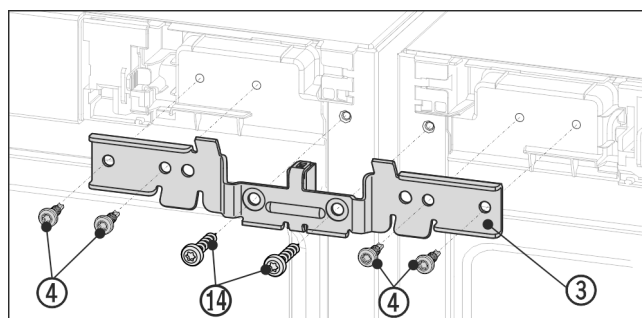

Fig. 12 Example illustration
- Slide the bracket *Fig. 12 (3)* with the spacer between the appliances onto the pins. Loosely screw on the bracket with four screws *Fig. 12 (4)* and the previously unscrewed grounding screws *Fig. 12 (14)* alternately on the right and left.